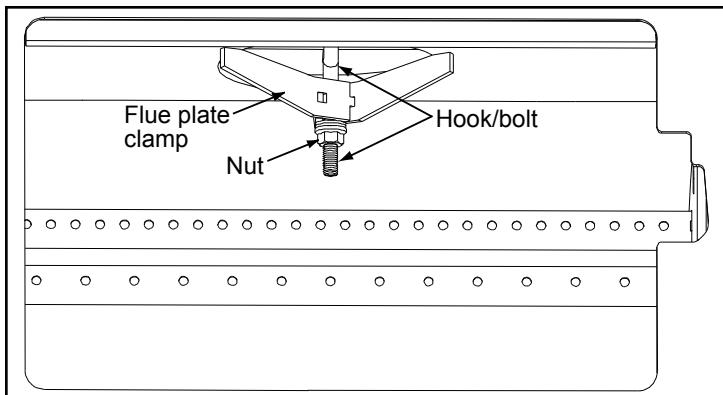

Figure 32: Attaching removable flue.
- Remove the first two (2) front secondary air tube and ceramic baffles, if installed (see CERAMIC BAFFLE INSTALLATION).
- Unscrew the nut on top of the inside of the firebox, using a $\frac{9}{16}$ " wrench or socket (see Figure 32). The flue plate clamp will slide off the hook/clamp.